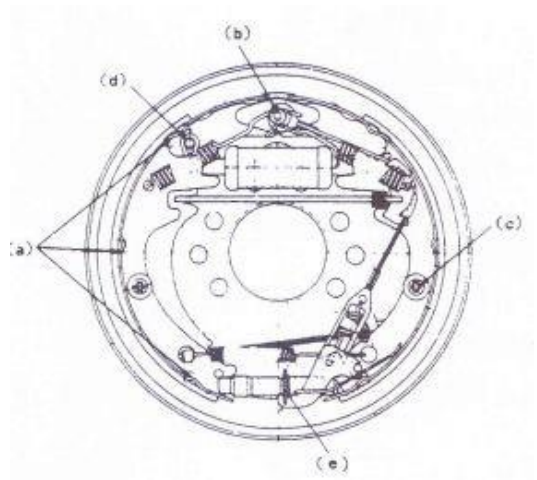

Fig. 2-20
(1) Apply brake fluid on the cup and piston of the brake slave cylinder, and assemble the spring, piston cup and piston dust ring in sequence.
(2) Install the brake slave cylinder on the brake base plate.
(3) The static brake sheet is installed on the drive axle.
(4) As shown in Figure 2-20, apply